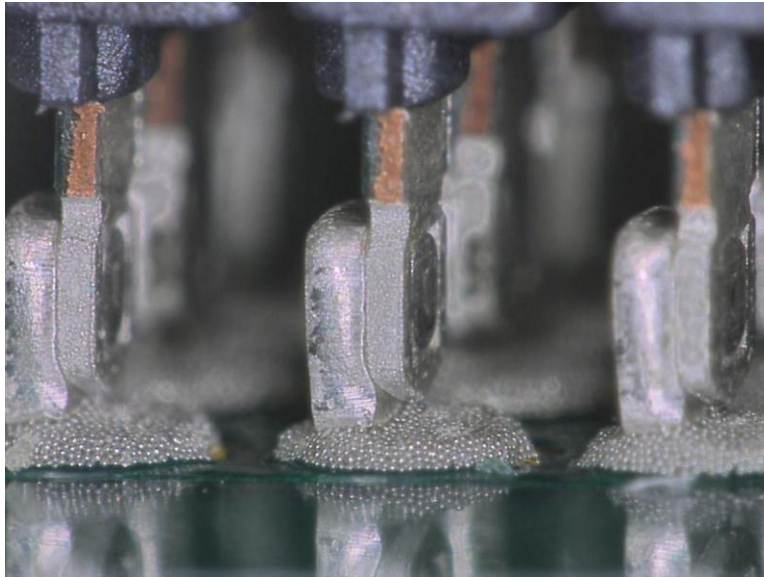

Fig. 3. Solder charge location relative to solder print. Notice good contact between solder charge and paste.
- Complete solder pad coverage is critical. The recommended aperture size is intentionally larger than the pad to ensure that the solder charge comes into contact with the solder paste (see Fig. 3). If this does not occur, proper wetting will not be achieved. Automated inspection of each print is recommended. If solder paste does not completely cover the solder pad the assembly should be rejected, cleaned and re-printed.
- The connector must be fully seated. As previously stated and shown in Fig. 3, it is critical that all solder charges come into contact with the solder paste to ensure proper wetting. Fig. 4 illustrates a fully seated connector prior to and after reflow. When using automated pick and place equipment, ensure the Z-axis dimension fully seats the connector onto the board surface. Due to nominal variances in solder charge positioning, i.e., coplanarity, not all charges will contact the board at the same time. As the solder charges reflow, however, the weight of the connector causes it to settle so that the body rests on or slightly above the board after processing (see Fig. 4 below).